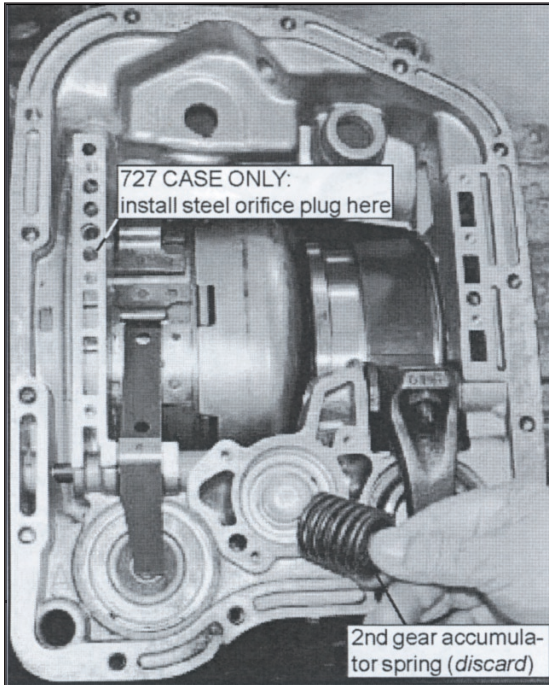

Figure 1
- Remove 2nd gear accumulator spring (Figure 1) and discard. FOR 727 CASE ONLY: Install steel orifice plug just below the surface in the indicated hole, using a flat nose punch.